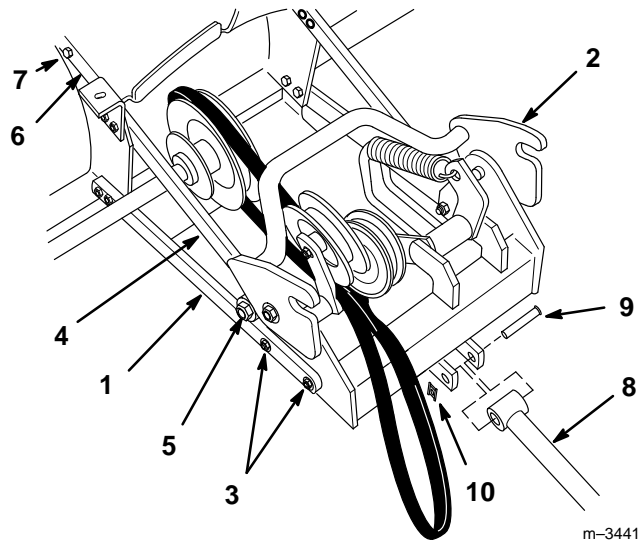

Figure 6
4. Attach the long lift bars to the outside of the pulley housing with (4) 3/8 x 1-1/4 (32 mm) carriage bolts and (4) 3/8" locknuts (Fig. 6).
5. Attach the short lift bars to the pulley housing with (2) 3/8 x 2-1/4 (57 mm) bolts and (2) 3/8" locknuts (Fig. 6). Tighten all (14) of the locknuts that attach the lift bars.
6. Attach the upper snow shield on the auger housing. Use (4) #10 x 1/2" (13 mm) self-tapping screws (Fig. 6).
9. Connect the lift tube to the pulley housing with the 2" (51 mm) clevis pin and clip (Fig. 6)